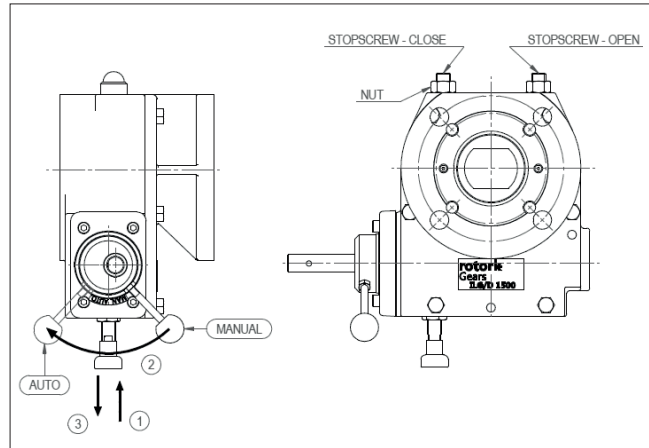

Figure 23.
2. Put the gearbox in manual-mode by turning the handle counter clockwise as shown in **Figure 23** below. First pull the knob (1) then turn the selector (2) and then release the knob (3) and make sure it is engaged.
3. Turn the handwheel clockwise to put the gearbox/valve in the fully closed position. When the fully closed position cannot be achieved, loosen the stop screw-close on the gearbox (**Figure 23**) and check the travel stop adjustment of the actuator. Once fully closed is achieved, hand tighten the stop screw and secure with the lock nut.
4. Turn the handwheel counter clockwise to put the gearbox/valve in the fully opened position. When the fully open position cannot be achieved, loosen the stop screw-open on the gearbox (**Figure 23**) and check the travel stop adjustment of the actuator. Once fully open is achieved, hand tighten the stop screw and secure with the lock nut.
5. Pull the knob outwards (3) then turn the selector (2) toward auto until the knob falls back into its locked position. The gearbox is now ready for operation.
2. To operate the valve with the handwheel, the gearbox must be put into manual mode. Refer to **Figure 23**:
- b. Pull the knob outwards (3) and hold the knob in this position.
- c. Turn the handle counter clockwise (2) toward “AUTO” and release the knob. Continue turning the handle until the knob falls back into locking position (1).
- a. Pull the knob outwards (3) and hold the knob in this position.